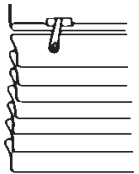
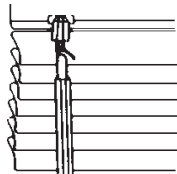
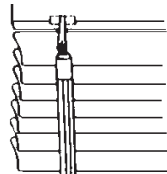

Fig. 18
Fig. 19
Fig. 20
**If you ordered a blind with a wand tilt,** you will find a metal shaft with a small hole protruding from the headrail. The wand provided has a metal hook with a plastic sleeve over the hook. Remove the plastic sleeve by pulling upward (fig. 18). The hook, still attached to the wand will be in an open position. Next, slide the plastic sleeve you removed over the metal shaft protruding from the headrail (fig. 19). Holding the sleeve up above the tilter shaft hole, insert the wand hook through the shaft hole until it "rests" in the bend of the hook. Then slide the plastic back down over the hook until it is back in the closed position (fig. 20). You will then be able to tilt the louvers of the blind by turning the wand. Approximately 4 revolutions of the wand are required to tilt the slats from fully closed in one direction to fully closed in the opposite direction.